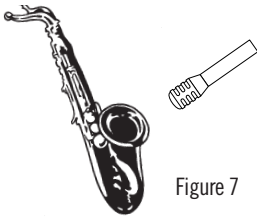

Figure 7
**Woodwinds**—Use a dynamic microphone placed a few inches above the bell and aimed at the sound holes (see figure 7).